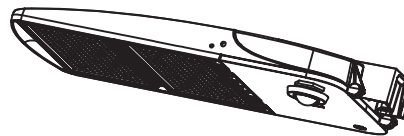

Figure 5
5. Lock driver cover screws tom complete installation (Fig. 5)